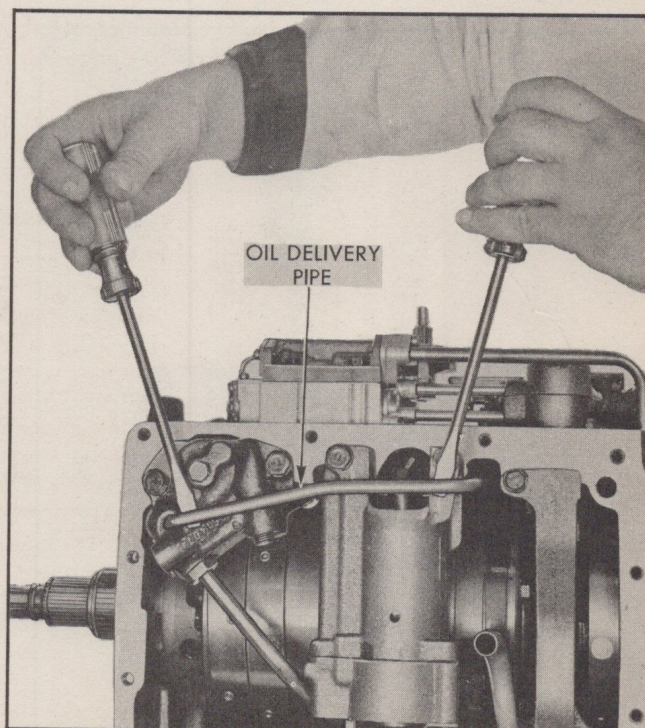

Fig. 9 Removing Governor Oil Delivery Pipe
2. Before removing servos, the governor oil delivery pipe must be removed from the front servo and case by prying the ends out with a screwdriver as shown in Fig. 9.